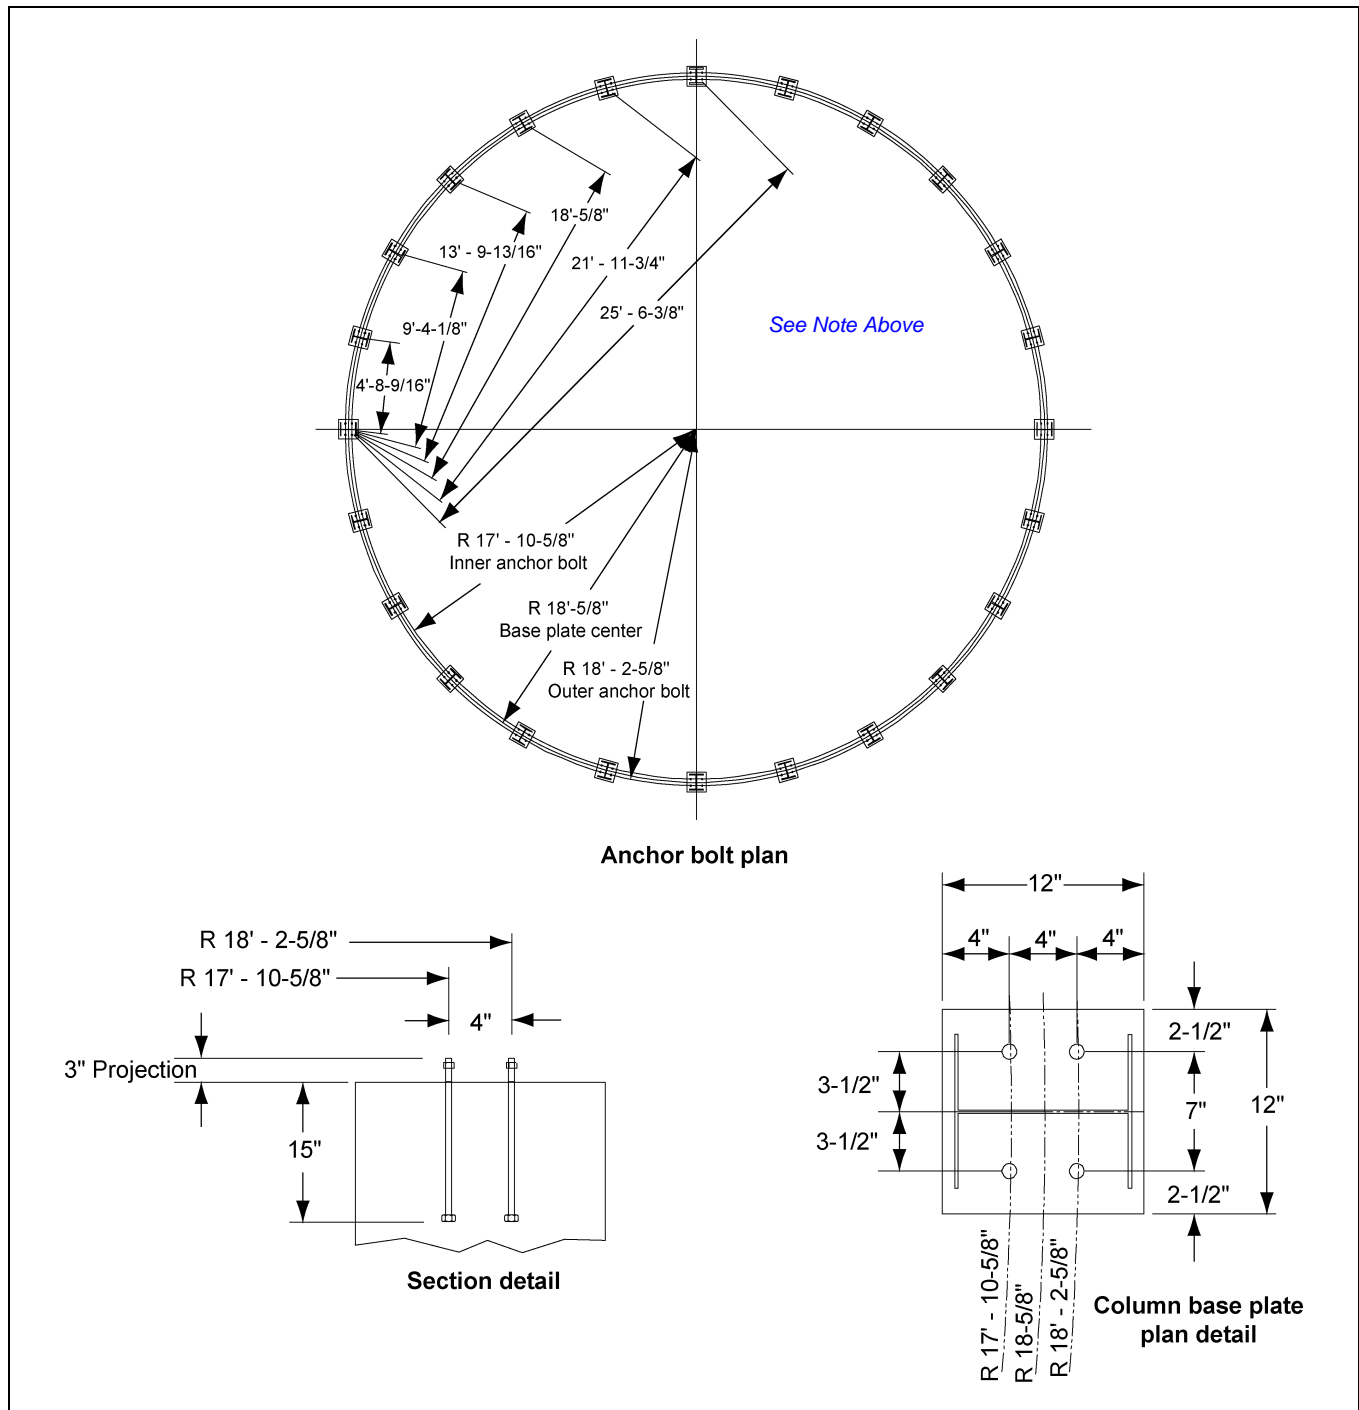

Figure 4D
The minimum anchor rod shall be a 1" diameter F1554 grade 55 rod with 15" embedment with a SAE grade 5 or A325 nut. Ninety six (96) anchor rods are required per 36' hopper bin. (See Figure 4D.) Anchor rod requirements should be determined in conjunction with the foundation engineer.